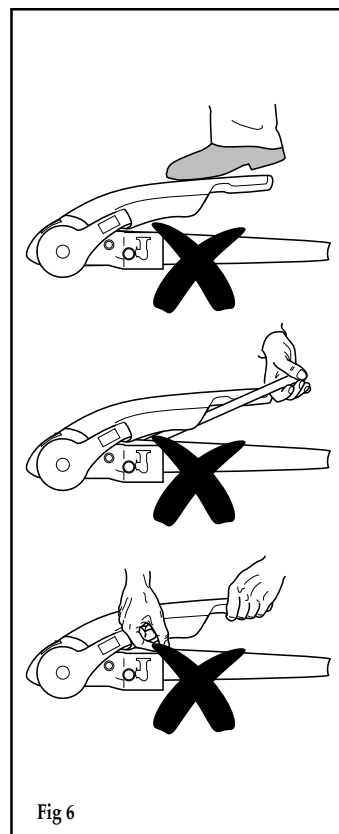

Fig 6
- Tighten the locking bolt socket using the wheel spanner provided (or torque wrench as shown) to wheel torque (ideally 86 Nm). (fig 6).
- 2) Press stabiliser lever down by hand force only DO NOT use your foot or an extension bar, this will damage the components (Fig. 6).
- 3) When opening or closing the stabiliser lever, please ensure your hand does not touch the coupling handle - you may accidentally trap your fingers! (Fig. 6).